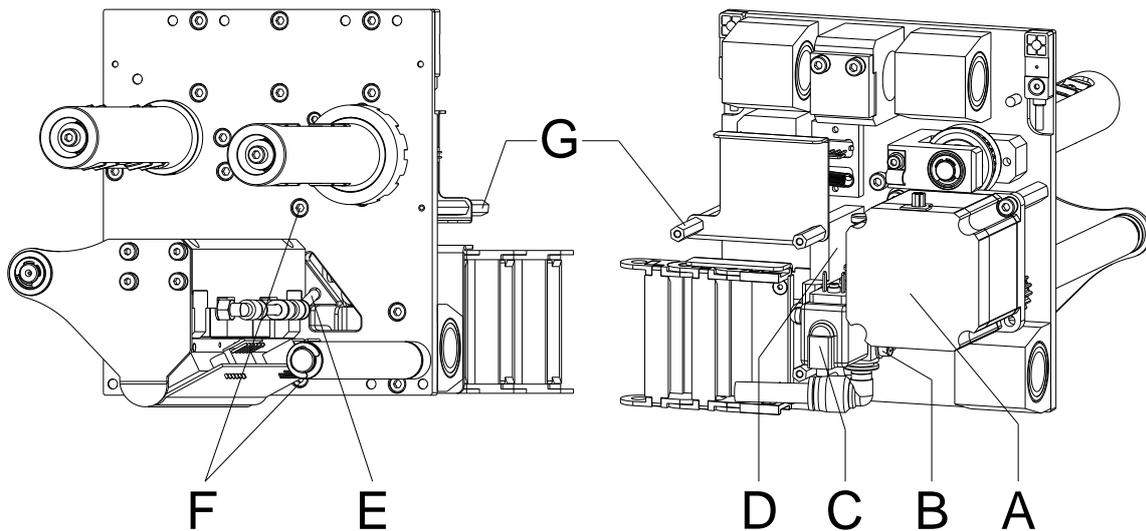

Figure 32
1. Place a new valve (C, Figure 32) and press forward the complete bracket for the valve (D, Figure 32) with components.
2. Tighten the screw (B, Figure 32).
3. Connect the pneumatic tube (E, Figure 32).
4. Tighten the screws (F, Figure 32).
5. Tighten the hexagonal bolts (G, Figure 32).